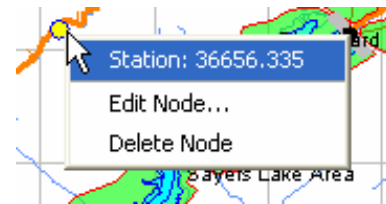

Figure 5.16 Stream Node Shortcut Menu
5. When you right-click on the stream station node, a shortcut menu appears (Figure 5.16).